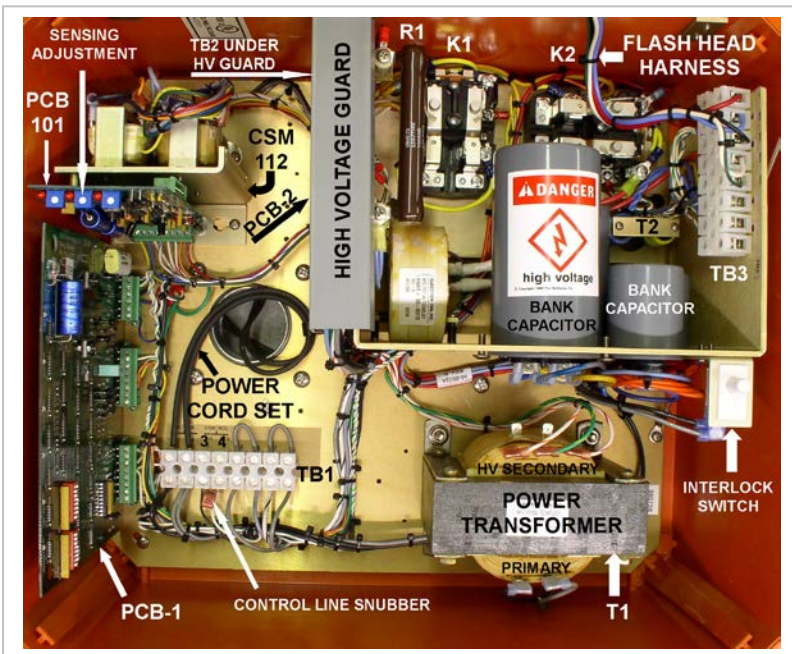
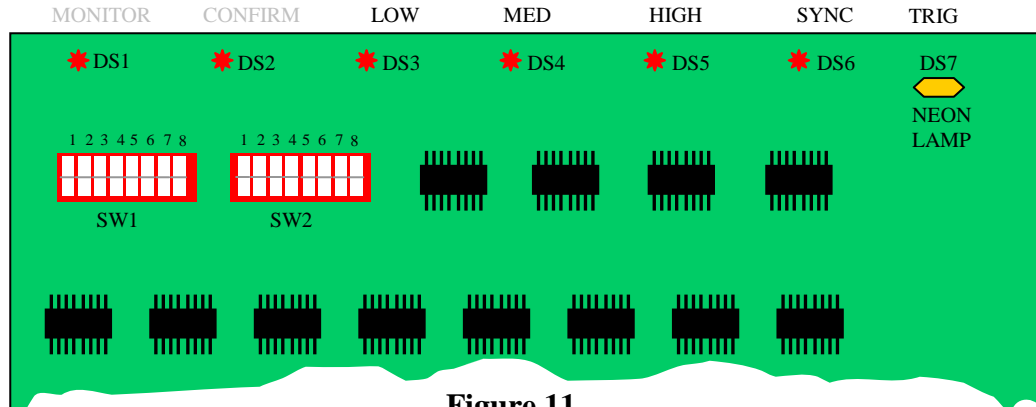

Figure 9
Figure 11
- Check screw tightness on TB1 and TB3 (See Figure 9 for locations). Check every position that has a wire connection whether to external wiring or to internal circuits.
It is important to know where the major components are located, especially when attempting to follow troubleshooting procedures. Use Figures 9 and 10 for this information. A slave power supply does not have a CSM 112 Current Sensing Module; it is otherwise identical to a master power unit.
Each power supply has two circuit boards with indicator lights that can be used to interpret operating conditions. PCB-1 (Figure 11) is the timing and control circuit board. Its location is shown in Figure 9. It has six red LEDs, but only four of these apply to standard functions. DS1 and DS2, labeled Monitor and Confirm, are used only when the Monitoring option has been elected at the time of purchase. DS7 is a neon glow lamp. SW1 and SW2 are programming switches
PCB-2 does not show in Figure 9, but its location is noted. The neon lamps on PCB-2 are in prominent view for safety and troubleshooting. DS3 is a safety lamp. It is lit whenever the dc bank voltage exceeds about 80 volts.